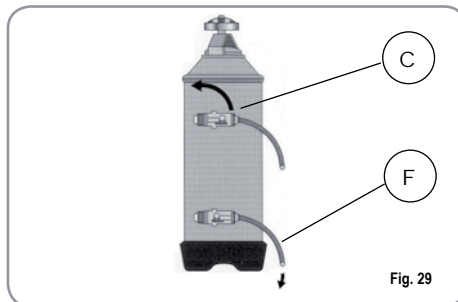

Fig. 29
2) Put the cap back on and reposition lever C moving it towards the left (Fig. 29) and allowing tube F to discharge the salty water until it has been eliminated and the water becomes fresh again (about half an hour).